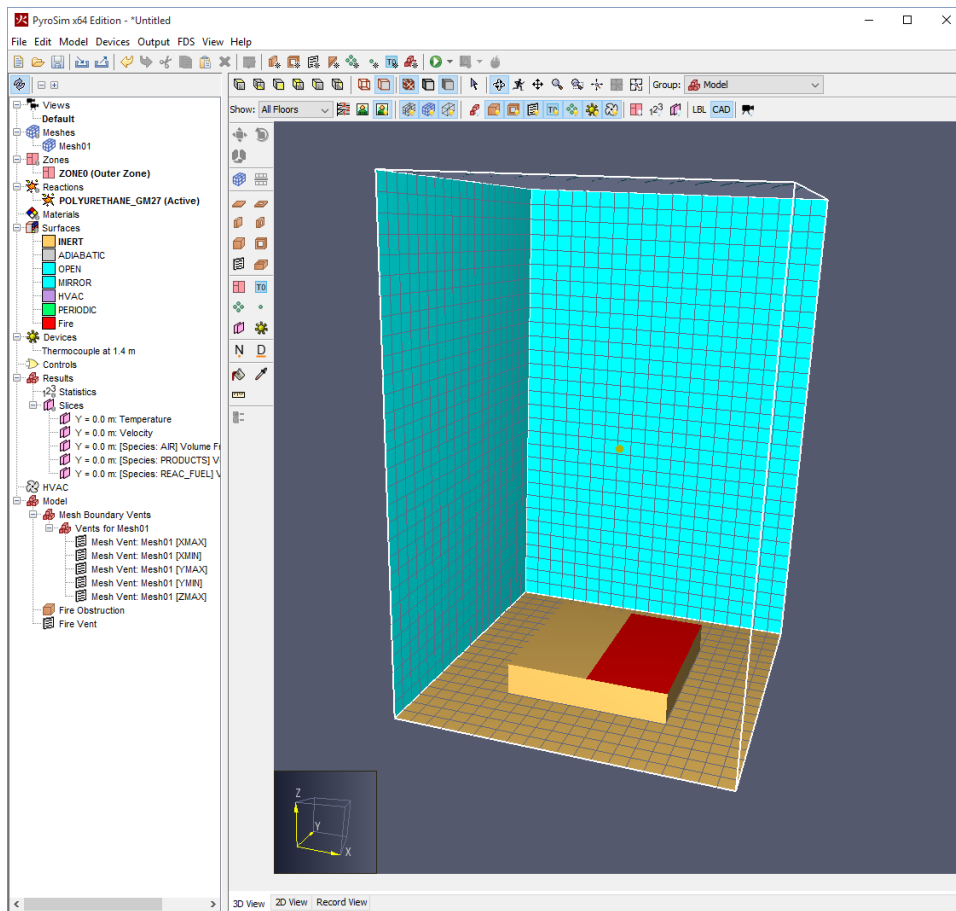

Figure 8. The Burner Fire model
2. Press the **left mouse button** in the **3D View** and drag to rotate the model. In Figure 8, the burner is shown in red and the thermocouple as a yellow dot. The slice plane is semi-transparent and the open vents are blue.